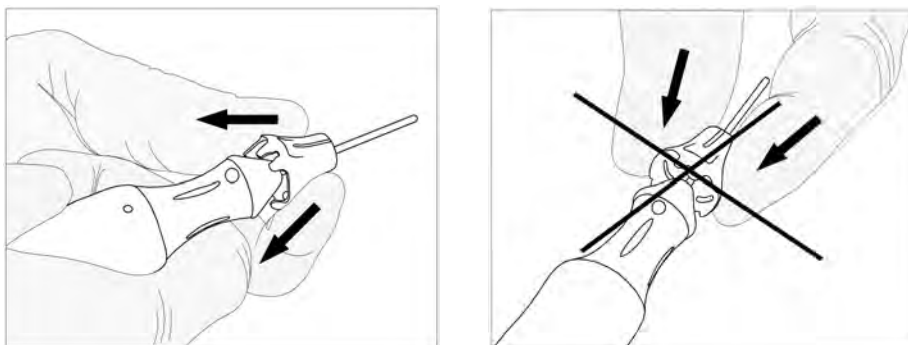

Figure 4.16. Left: Safe, effective method for installing the finger guard; Right: Incorrect method.
- a. The finger guard can be installed on the front of the handpiece, as shown in Figure 4.16. To ensure safe, effective installation, attach the finger guard with the needle pointed away from the hand, while avoiding finger contact with the needle. (Scrub Nurse)